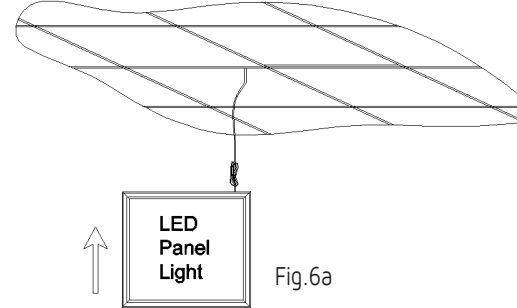
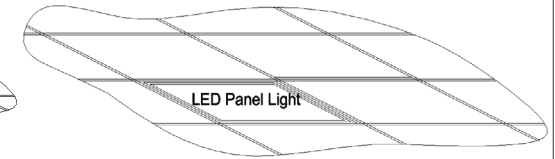

Fig.6a
Fig.6b
Step 4: Move LED Panel into the ceiling aperture and ensure the LED Panel is mounted securely, Fig.6a. Finally, turn on the mains supply to check the panel is working correctly, Fig.6b.